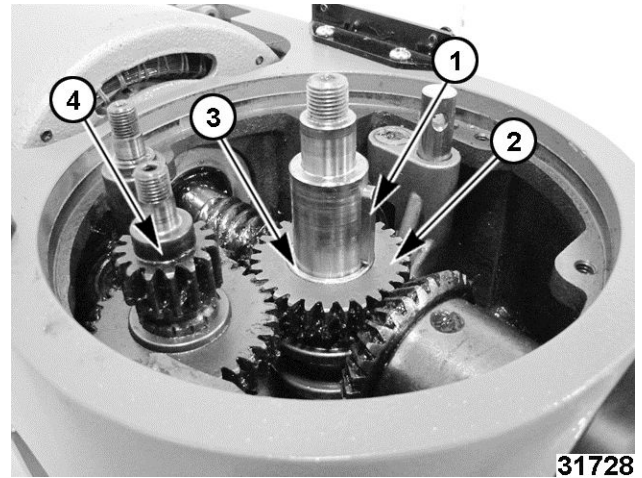

Fig. 33
9. Replace transmission shaft assembly (4, Fig. 33).
10. Replace third gear and bushing (2,3, Fig. 33).
11. Replace planetary shaft upper key (1, Fig. 33).